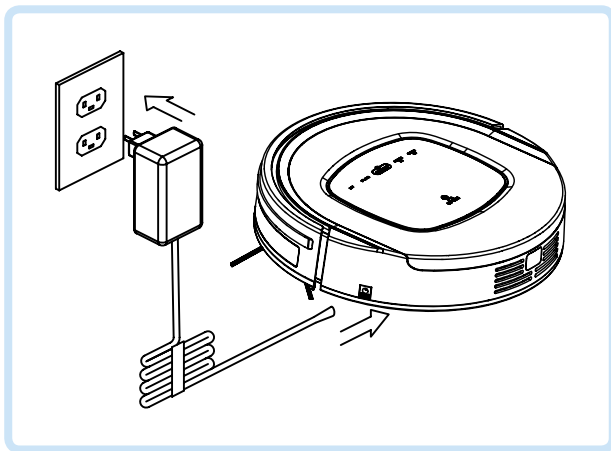

Figure 1
1. Plug the adapter into the robot and the other end to the power socket as shown in Figure 1.